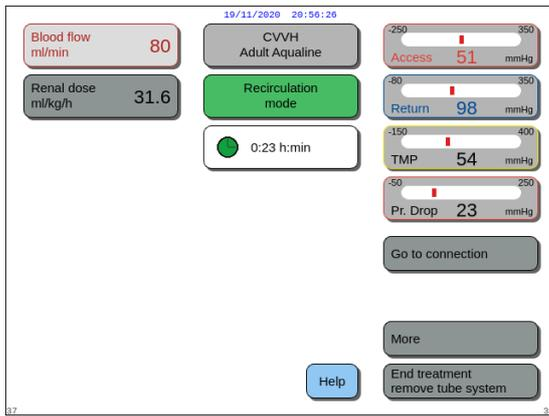

Fig. 119
1. Select and confirm *Go to connection* (Fig. 119).
1. Select and confirm *End treatment remove tube system* (Fig. 119).